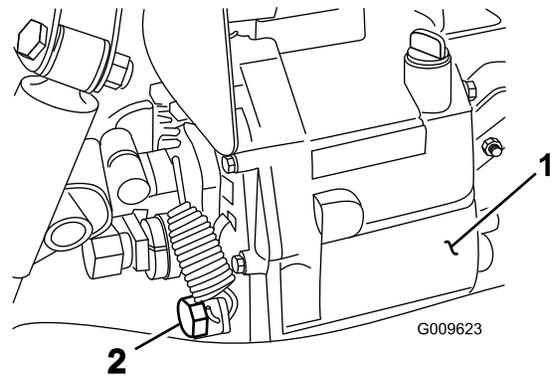

Figure 62
2. Remove the drain plug from the side of the reservoir and let the hydraulic fluid flow into a drain pan (Figure 62).